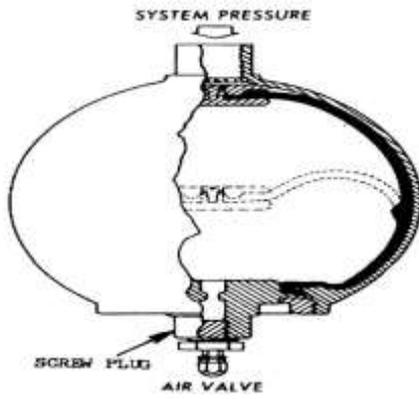

Figure 6
d. Diaphragm Accumulator. The diaphragm accumulator consists of two hollow, hemispherical metal sections bolted together at the center. Notice in Figure 6 that one of the halves has a fitting to attach the unit to the hydraulic system; the other half is equipped with an air valve for charging the unit with compressed air or nitrogen. Mounted between the two halves is a synthetic rubber diaphragm that divides the accumulator into two sections. The accumulator is initially charged with air through the air valve to a pressure of approximately 50 percent of the hydraulic system pressure[2]. This initial air charge forces the diaphragm upward against the inner surface of the upper section of the accumulator. When fluid pressure increases above the initial air charge, fluid is forced into the upper chamber through the system pressure port, pushing the diaphragm down and further compressing the air in the bottom chamber. Under peak load, the air pressure in the lower chamber forces fluid back into the hydraulic system to maintain operating pressure. Also, if the power pump fails, the compressed air forces a limited amount of pressurized